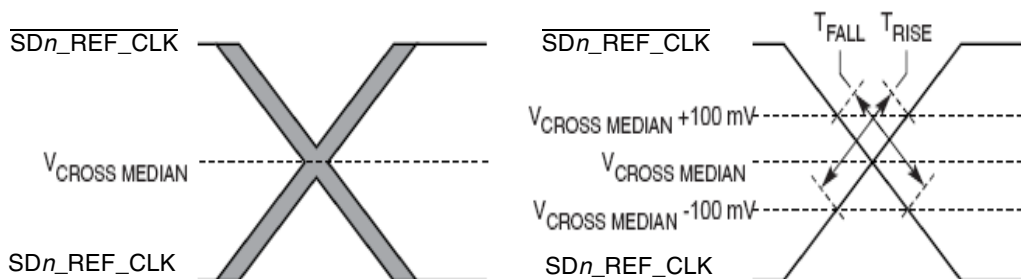

Figure 39. Single-Ended Measurement Points for Rise and Fall Time Matching
4. Matching applies to rising edge rate for SDn_REF_CLK and falling edge rate for $\overline{SDn_REF_CLK}$. It is measured using a 200 mV window centered on the median cross point where SDn_REF_CLK rising meets $\overline{SDn_REF_CLK}$ falling. The median cross point is used to calculate the voltage thresholds the oscilloscope is to use for the edge rate calculations. The rise edge rate of SDn_REF_CLK should be compared to the fall edge rate of $\overline{SDn_REF_CLK}$, the maximum allowed difference should not exceed 20% of the slowest edge rate. See Figure 39.